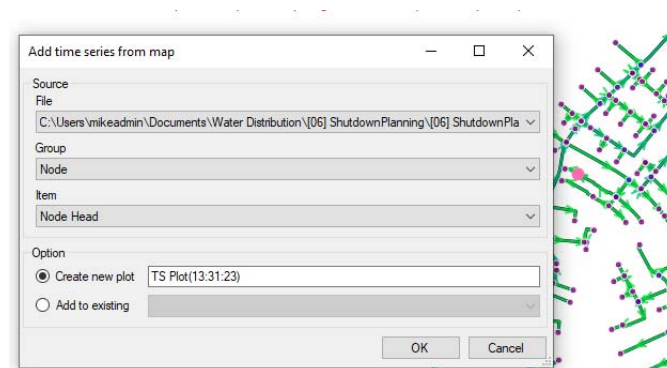

Figure 20.30 Select and display time series from a node
- **TS from map.** This tool allows for creating a time series plot directly from a selected item on the map (i.e. Map View) (Figure 20.30).